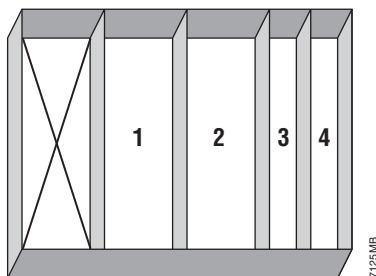

Figure 2. Configuration of troughs at position B3. Troughs 1 and 2 each use Quarter Reservoirs. Troughs 3 and 4 use a Quarter Reservoir, Divided by Length.
- Position B3 Gray labware holder, Frame for Reservoirs, Reservoirs with reagents (see Figure 2 for configuration)